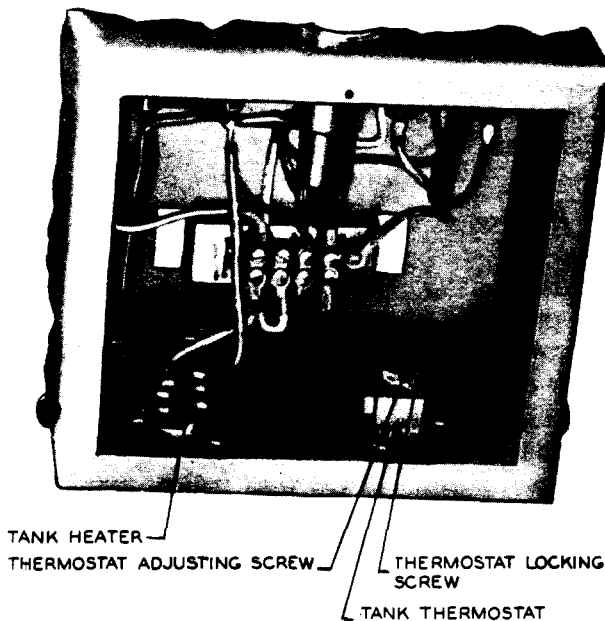

Fig. 2 — KS-14778 Photo Processor—Bottom View of Control Panel—Access Panel Removed
(3) If the heater heats the liquids, but the temperature is outside the required limits, adjust the tank thermostat as follows. Disconnect the power cord and remove the access panel as covered in (1). Referring to Fig. 2, loosen the thermostat locking screw using the screwdriver of the No. 48 combination wrench and screwdriver. With the Stanley No. 2012 screwdriver, turn the thermostat adjusting screw as required to increase or decrease the temperature setting. One eighth turn of the screw changes the temperature setting approximately 10F. Because of differences in the thermostats which have been furnished on the photo processors, turning the adjusting screw clockwise in some cases increases and in other cases decreases the temperature setting. After changing the temperature setting, recheck the requirement.